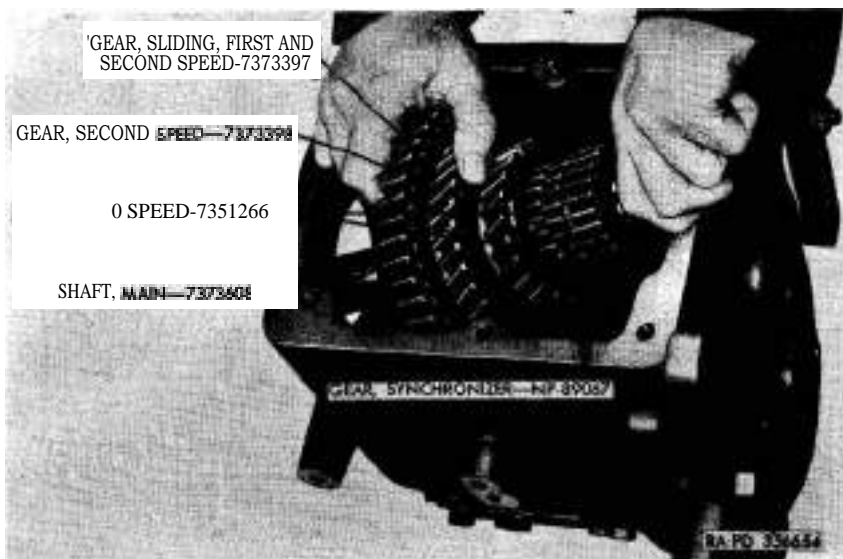

Figure 103. Removing main shaft assembly from case.
- (3) Hold first and second speed sliding gear against second speed gear and lift main shaft assembly from case (fig. 103).